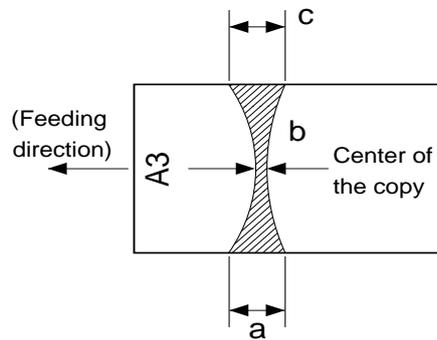

Figure 14-227
- 4) Measure the width of the area where toner is shiny (Figure 14-227).